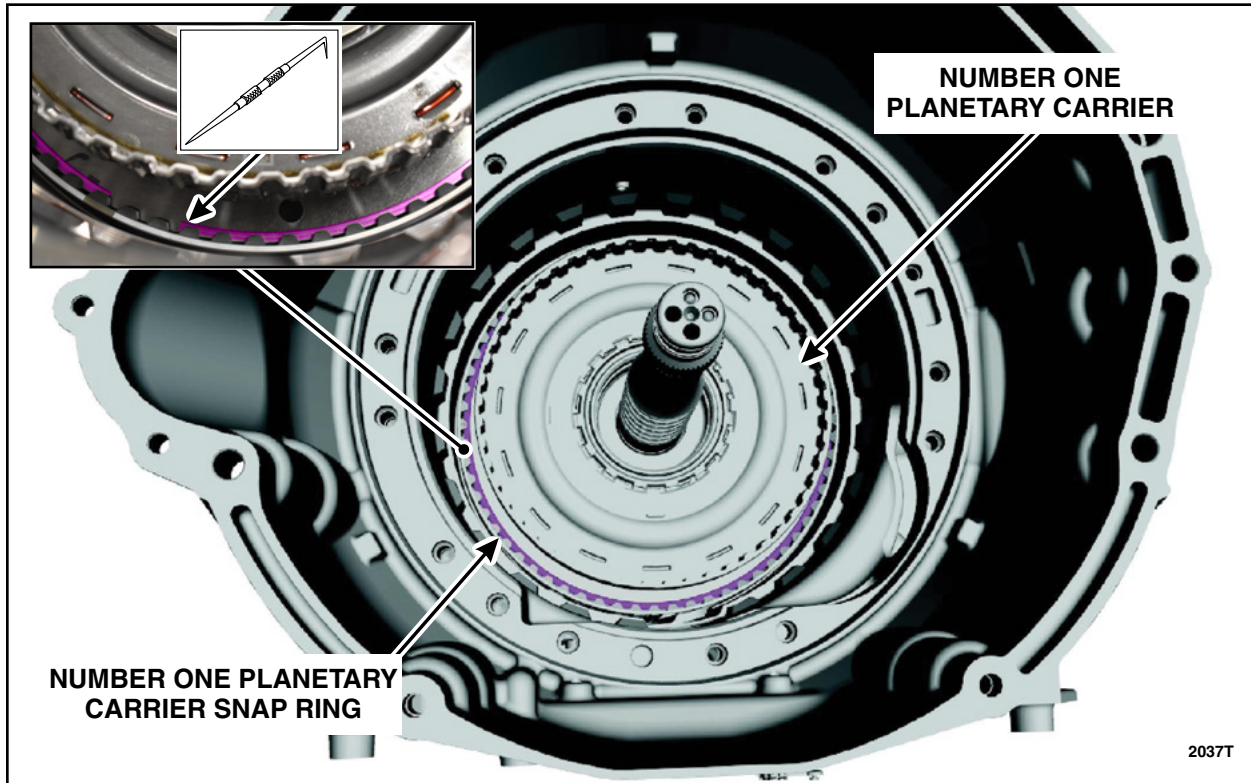

FIGURE 13
15. Using a pick, remove the number one planetary carrier snap ring. See Figure 13.